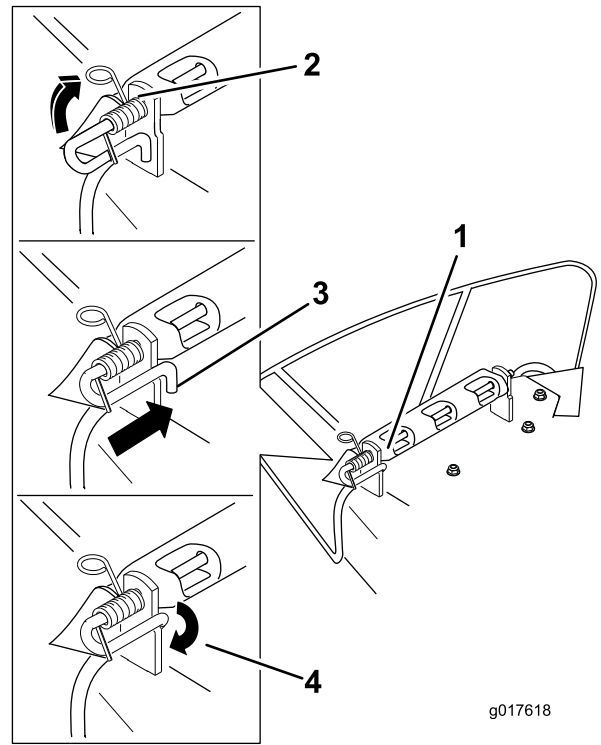

Figure 64
7. Secure the rod and spring assembly by twisting it so the short end of the rod is placed behind the front bracket welded to the deck (Figure 64).
3. Position the new discharge deflector with the bracket ends between the welded brackets on the deck as shown in Figure 64.
6. Lift the loop end of the spring and place it into the notch on the deflector bracket (Figure 64).